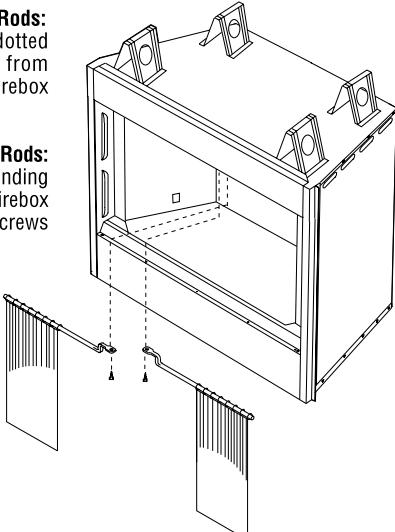

Figure 10
Step 1. Using a 5/16" nut driver or socket, remove the screen and rod assemblies as shown in Figure 10.
Step 3. Reinstall screen and rod assemblies (see Figure 10).